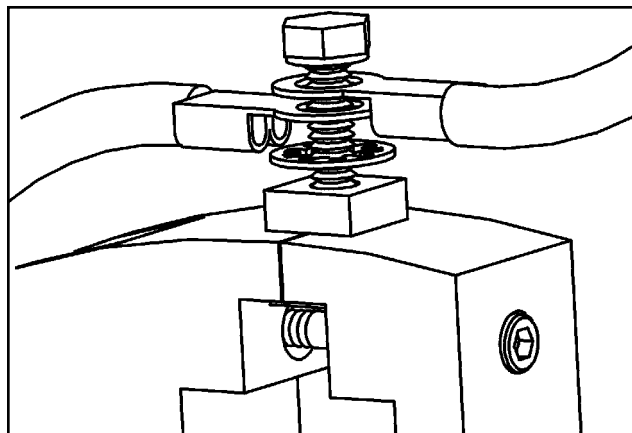

Figure 16-1
3. Disconnect the Spool Cable Connections from the Slip Ring Brush Terminals. Mark/Note the existing cable connections. See **Figure 16-1**.